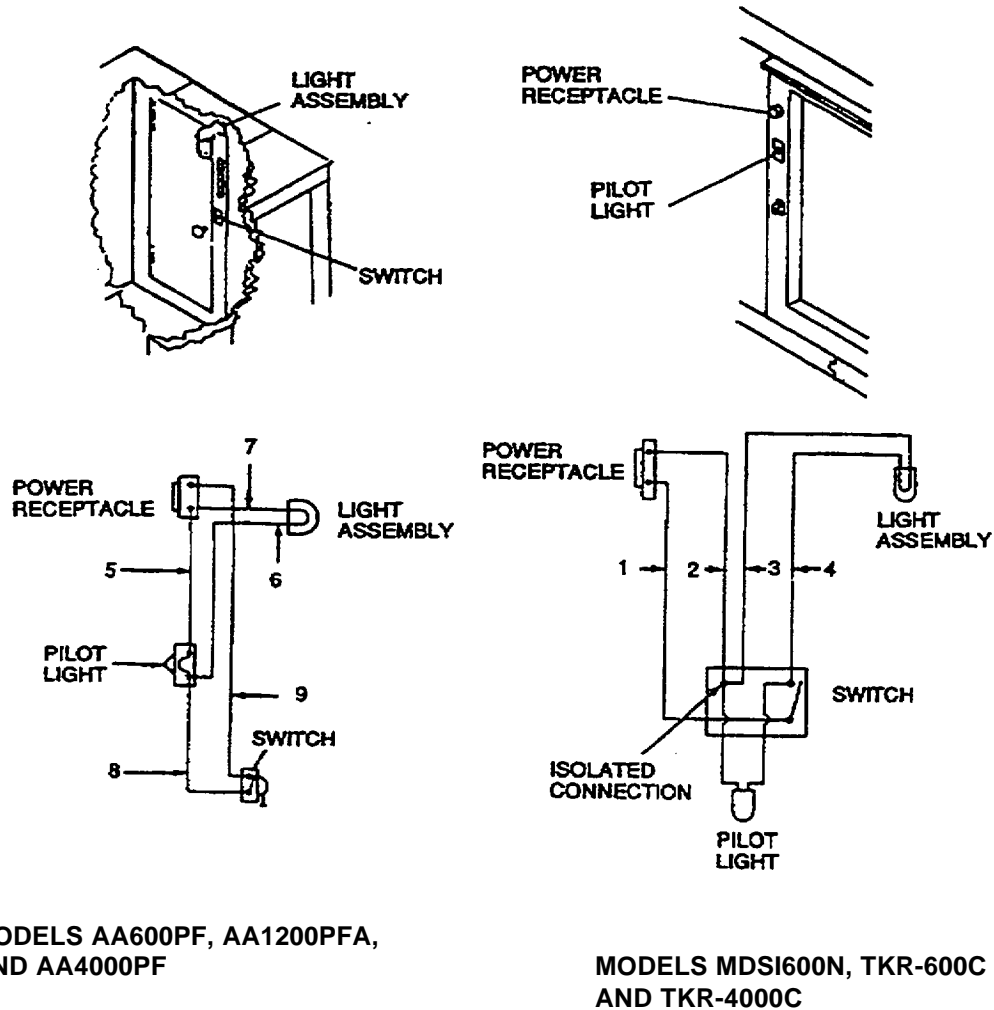

Figure 4-13. Test/Repair Wires
- (1) Remove pilot light socket and pilot light housing assembly (para. 4-23 and 4-23.1).
- (2) Remove power receptacle (para. 4-26 and 4-26.1).
- (3) Remove light assembly (para. 4-24).
- (4) Remove switch (para. 4-20).
c. Testing: (See figure 4-13). (Steps (1)-(4) are for Models MDS1600N, TKR600C, and TKR-4000C).
- (1) Use multimeter to check continuity between power receptacle and switch (wire 1).
- (2) Use multimeter to check continuity between power receptacle and isolated connection on switch (wire 2).
- (3) Use multimeter to check continuity between isolated connection on switch and light assembly (wire 3).
- (4) Use multimeter to check continuity between switch and light assembly (wire 4).
- (5) Use a multimeter to check continuity between pilot light socket and power receptacle (wire 5).
- (6) Use a multimeter to check continuity between pilot light socket and light assembly (wire 6).
- (7) Use a multimeter to check continuity between light assembly and power receptacle (wire 7).
- (8) Use a multimeter to check continuity between pilot light socket and switch (wire 8).
- (9) Use a multimeter to check continuity between switch and receptacle (wire 9).